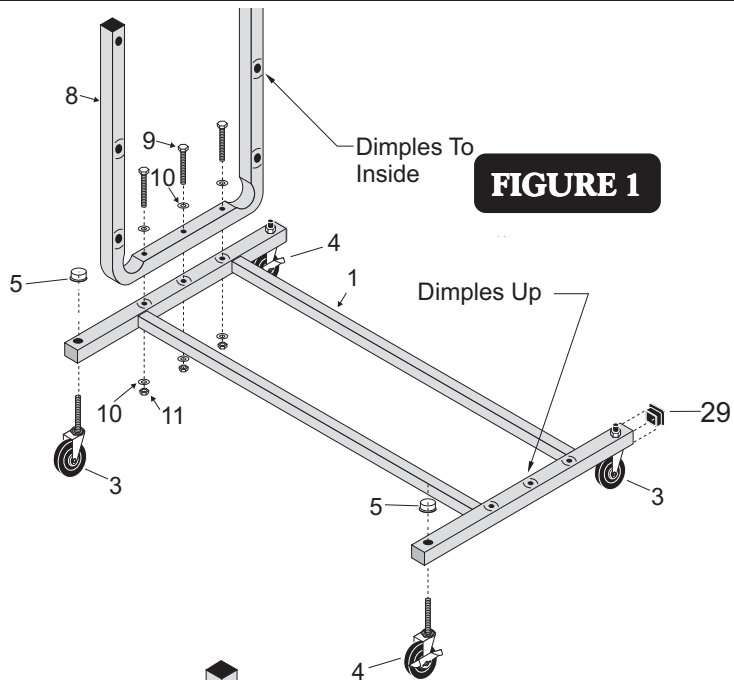

FIGURE 1
2. Attach two non-locking casters #3 and two locking casters #4 to frame base #1. **NOTE: Dimples in frame base should face up.** (See figure 1) **Locking casters #4 must be on opposite corners from each other.** Secure casters using Push nuts #5. Use a hammer to tap push nuts onto caster stems securely.
3. Put tube end caps #29 in the ends of the base frame tubes #1. (See figure 1)
4. Attach "U" uprights #8 to base frame #1, with dimples facing inward, using three bolts #9, six washers #10 and three locknuts #11. (See figure 1) **Do not over tighten bolts crushing tubes.**
Note: One washer goes on top of "U" uprights, and one goes under the base frame. (See figure 1)